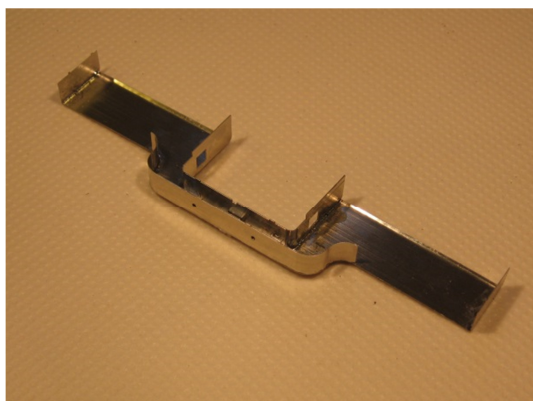

Fig. 20
46. Take care **not to fill in other slots** that are yet to be used. Fig 20 & 21.